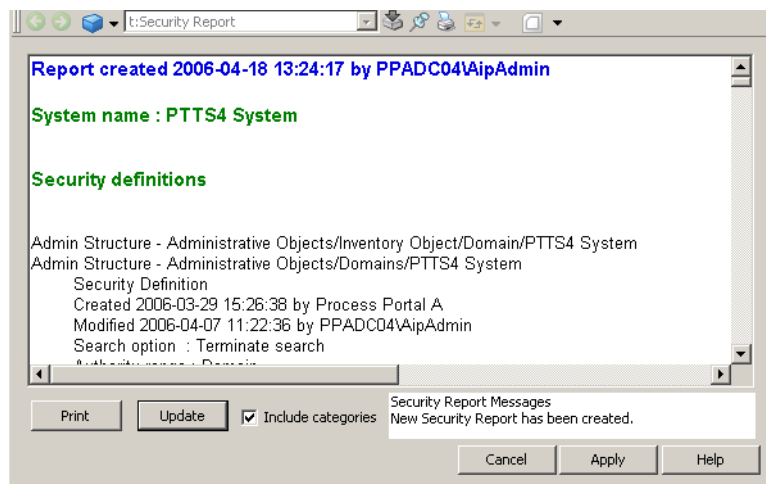

Figure 54. Security Report Aspect
1. Add a Security Report to any object in any structure by opening the context menu in the aspect list and select **New Aspect**. Select a Security Report aspect in the list and click **Create**. See Figure 54.